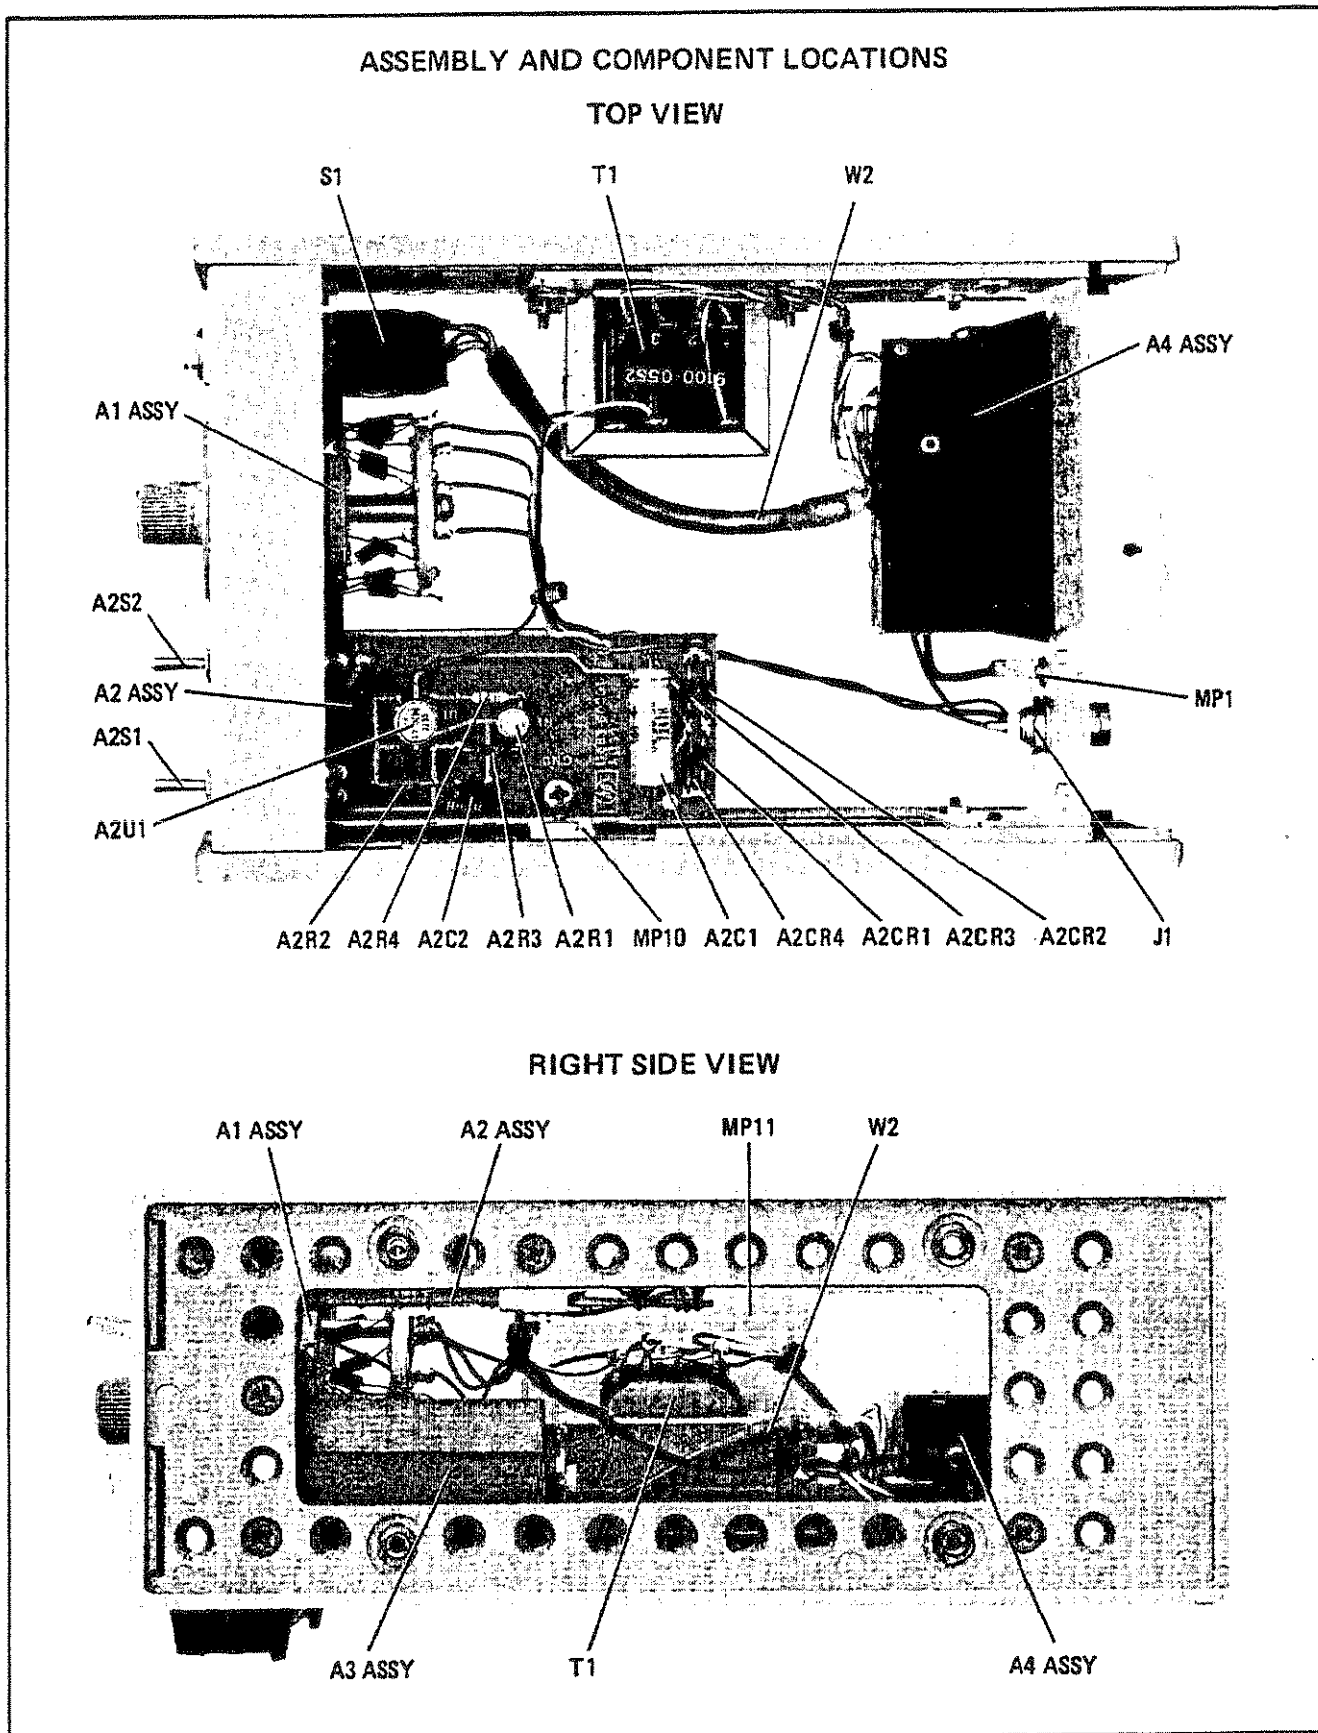

Figure 13. 11683A Assembly and Component Locations
60. Service Information is composed of Repair, Principles of Operation, and Troubleshooting, followed by the assembly and component locations diagrams (Figure 13 and 15) and schematic diagrams (Figures 14 and 16).
d. Press the 435A ZERO Switch and check the spike amplitude on the oscilloscope display. Remove A2C2 and replace it, in the same location, with the next higher value capacitor. A2C2 may be located in one of the two positions or it may be omitted; see Figure 13.